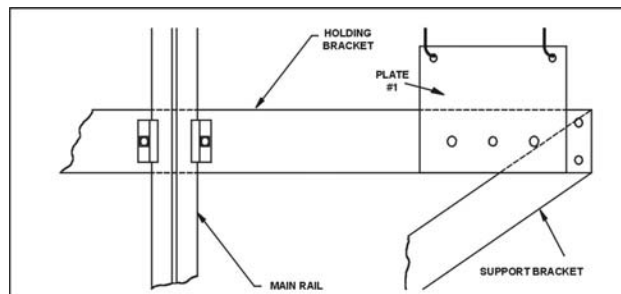

Figure 1-24
- Position the bottom support bracket to a position below the support bracket plate #1 that would allow the springs to become stretched to 1.5 times their original lengths. Verify the support bracket is in line with the top bracket and the centerline of the tape. Securely mount the bottom support bracket to the rail. [See Figure 1-24.]